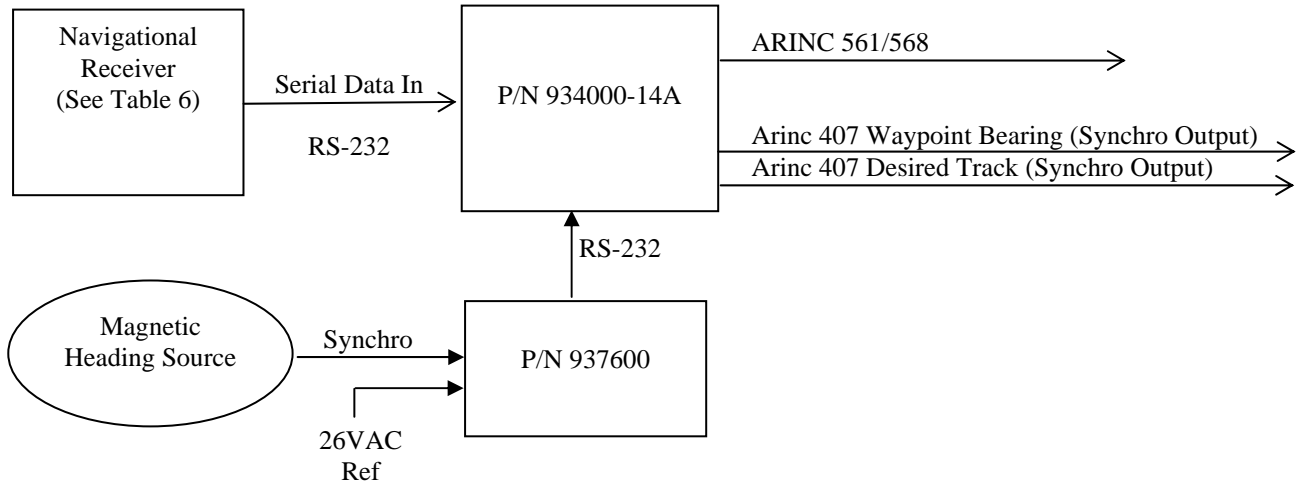

FIGURE 1.
The Serial to ARINC-561/568, 2 Sync/Hdg Ref Opt Converter receives serial data from a GPS receiver and from an aircraft heading source through the Synchro to Serial Converter, Shadin P/N 937600 (See Fig. 1). The serial input data is converted to ARINC 561/568 data to drive the distance to go display on the HSI. Use SW 1 to select the normal labels or the alternate labels for the various navigational receivers installed (Table 3). The serial input data is also converted to Waypoint Bearing and Desired Track synchro output signals, (Table 4) for SW2 selection options. In summary, the three available settings for ARINC 561/568 output are as follows.
- 1.3 Figure 1. is a functional block diagram of the Serial to ARINC 561/568, 2 Sync/Hdg Ref Opt Converter system. The Synchro to RS-232 Converter, P/N 937600, is *optional*. When the 937600 is installed the Bearing to Waypoint Synchro output is referenced to Magnetic Heading rather than True Heading. The unit looks for this data and when it is present it automatically changes the Waypoint to Bearing output to Magnetic Heading Reference. No operator action is required. The serial data coming from the navigational receiver and the Magnetic Heading converter connect to J2 of the Serial to Arinc 561/568, 2 Sync Converter. The output of the Serial to ARINC-561/568, 2 Sync/Hdg Ref Opt Converter connects to the HSI or DME on P1 and P5.